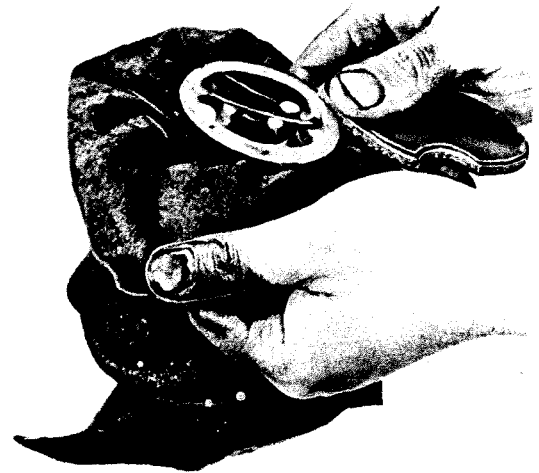

Fig. 5-2. Examining Oil Filter bag
3. Turn used bag inside out and inspect for bearing metal, grit, etc. (Fig. 5-2). If metal is found in the bag, an inspection of all connecting rod and main bearings should be made at once. Inspect spool gasket, bag clamp and spacer mat. If they are not in good condition, replace with new parts.